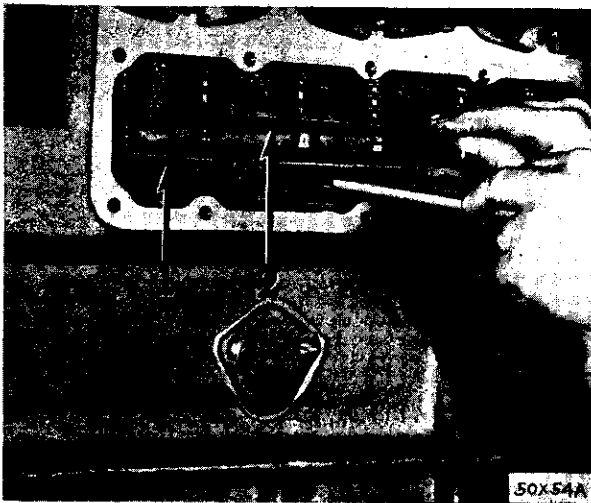

Fig. 62—Installation of Valve Tappet Guide Assembly
- (8) Reassemble each tappet assembly. Insert the plunger into the cylinder (dry), and turn clockwise, while pushing in until the spring seats in counterbored recess in the cylinder. At the same time, release trapped air by inserting a tooth pick or wood match into the oil inlet tube to unseat the ball check valve.
- (9) Insert the plunger and the cylinder assembly into the tappet body.
- (10) Install tappet assemblies into the proper location in the tappet guide, and install the retaining rings (Fig. 62).
- (11) Service each individual tappet assembly in accordance with Steps (1) through (10), and keep the tappet guide assemblies dry before installation in the engine.